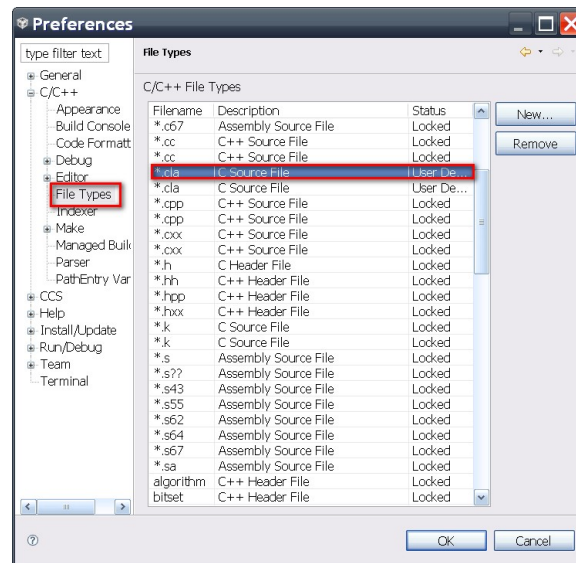

Figure 4.3: Configuring CCS5 to recognize the .cla extension
4. In the drop down menu select C source file(see Fig. 4.3).